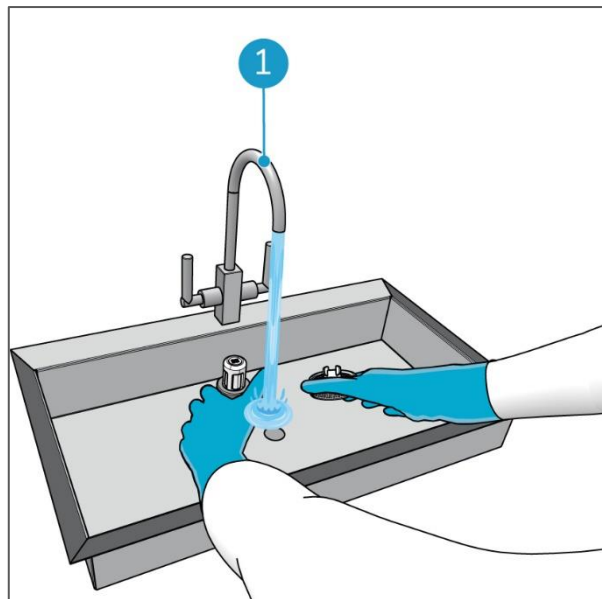

Figure 62
6. Take of the cap and the filter and rinse both with tap water above a sink (Figure 62, pos 1).